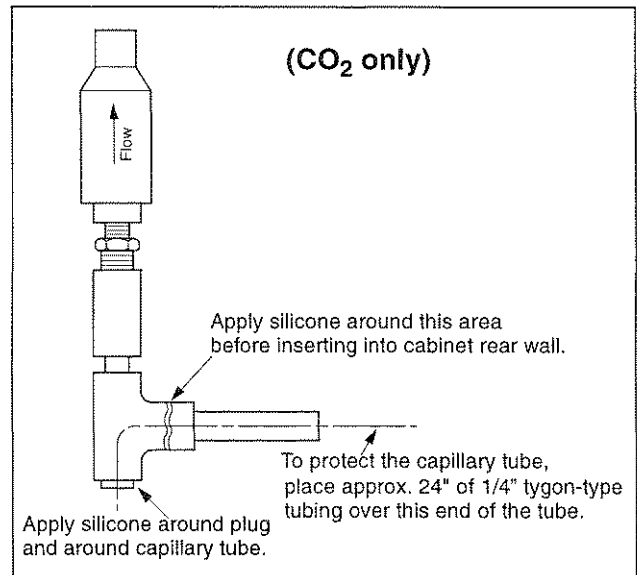

Figure 4. Cabinet Pressure Relief Check Valve
CAUTION! Always install the Cabinet Vent Assembly (refer to Figure 4 on page 3) before operating the backup system. This assembly prevents excess pressure from building within the cabinet due to frost formation which can block the porthole on the back of the unit. The porthole provides pressure relief when emergency gases are being admitted directly into the cabinet interior and must always be kept open.
6. Install the Cabinet Vent Assembly through the 1 in. diameter port located on the back wall of the cabinet (refer to Figure 4) before operating the backup system.
- b. Insert the end of the capillary tube through the PVC cabinet vent assembly (refer to Figure 4 on page 3).
Note: It's much easier to run the capillary tube through the tee of the vent assembly before the assembly is siliconed together (refer to Figure 4 on page 3).
6. Install the Cabinet Vent Assembly through the 1 in. diameter port located on the back wall of the cabinet (refer to Figure 4 on page 3) before operating the backup system.